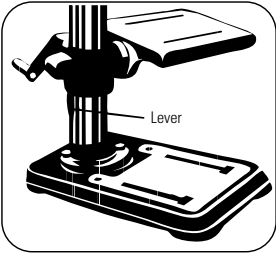

FIGURE 8.12
- Tighten the Table Clamp Lever (Figure 8.12).
- Loosen the bolt/nut of the depth gage (Figure 8.12).
3. Move the table to the desired height using the crank. For angle drilling, adjust the table to the desired angle using the bolt, use a protractor as reference (Figure 8.12).